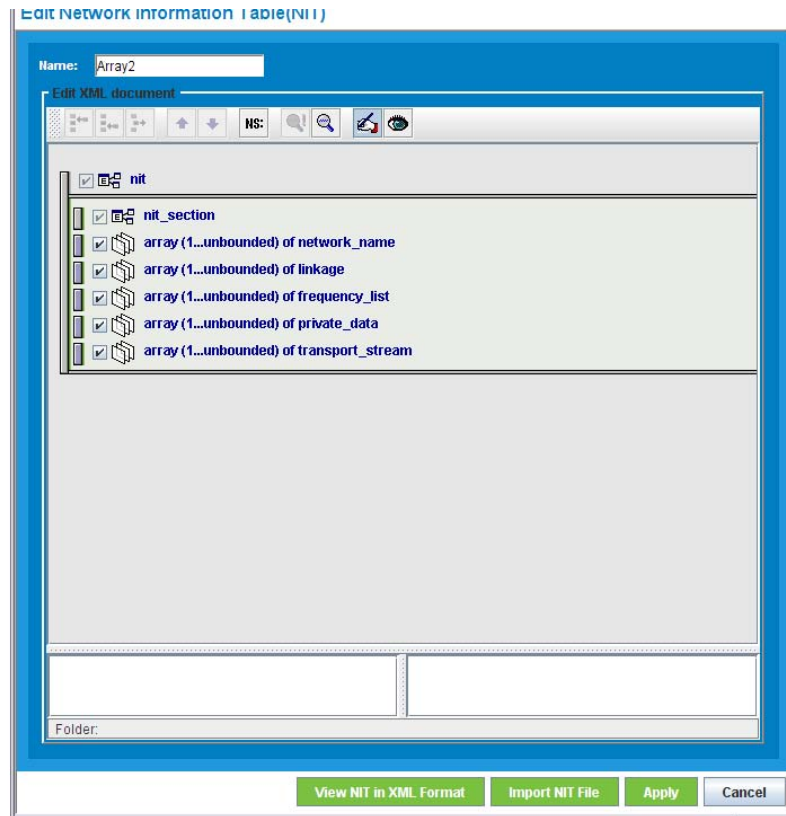

Figure 301. Default Array
1. Click **Edit**. The default configuration file appears (Figure 301).